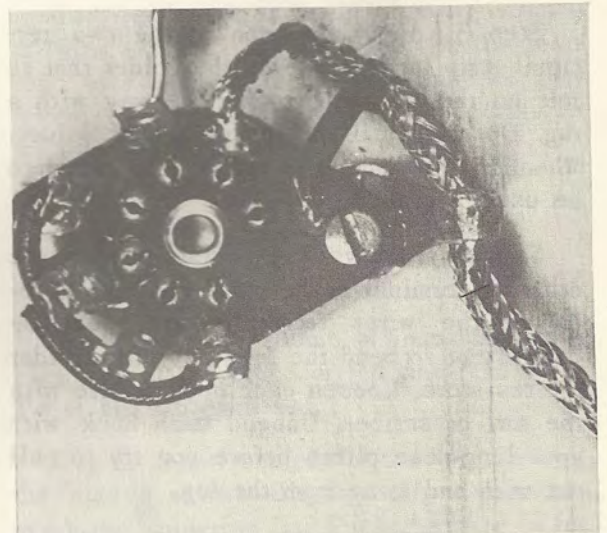

Fig. 2-19
Step 16. Bend the entire shielded cable around so that it passes near the ground lug that you put on the socket screw in Job 2-1. Lift up the lug and push the cable under the lug. Then bend the lug around the cable as far as it will go, as shown in Fig. 2-19. Now solder the lug to the shielding of the cable.